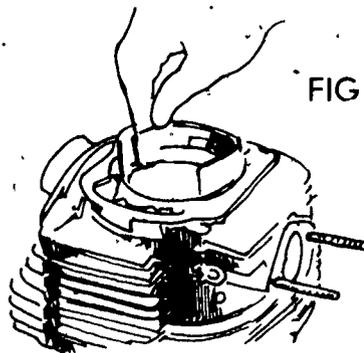

FIGURE 7
4. Check ring end gap at bottom of ring travel (Figure 7)